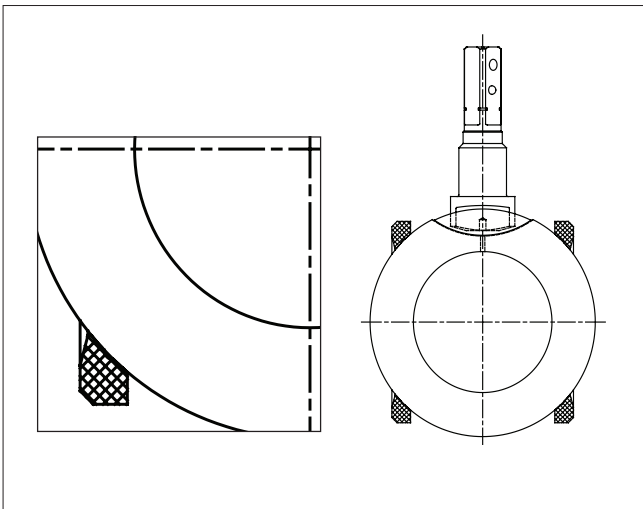

Figure 3. Proper Seat and Ball Orientation
3. Carefully clean and polish the ball (3) sealing surface: It should be free of all scratches and grooves.
5. With the body insert side facing up, slide one valve seat (7) sideways into the body (1) to below the stem bore, and tilt it into place so that the proper surface (see **Figure 3**) will be adjacent to the ball (3), being careful not to cut or scratch the seat.
14. Insert the ball (3) rotating it onto the stem (5) in the closed position. If necessary, turn the stem blade to align with the ball slot. Make certain that the stem blade is in the middle of the ball slot; i.e. equal distance from the ends of the slot. Rotate the ball if necessary (see **Figure 3**).
15. Gently place the body gasket (65) into the machined recess of the body (1).
16. Place the second seat (7) into the insert (2) so that the proper surface adjacent to the ball, (see **Figure 3**).
17. Liberally apply Dow Corning 111 Lubricant & Sealant, or equivalent, to the threads of the socket head cap screws (73) and the set screws (72).
18. Install the set screws in manner that they do not protrude through the insert (2) or above the insert face. Wipe all excess lubricant from the insert surface.
19. Fit the insert (2) into the valve body (1), aligning the mounting holes in the insert with the threaded holes in the body.
20. Compress the insert (2) into the body (1) to relieve tension on the socket head cap screws (73). The load must be evenly distributed around the flange of the insert. Ensure that the socket head cap screw positions are not obscured. Install the lubricated socket head cap screws and tighten them in a crisscross pattern to approximately 23 IN·LBS. Slowly relieve the load compressing the insert.